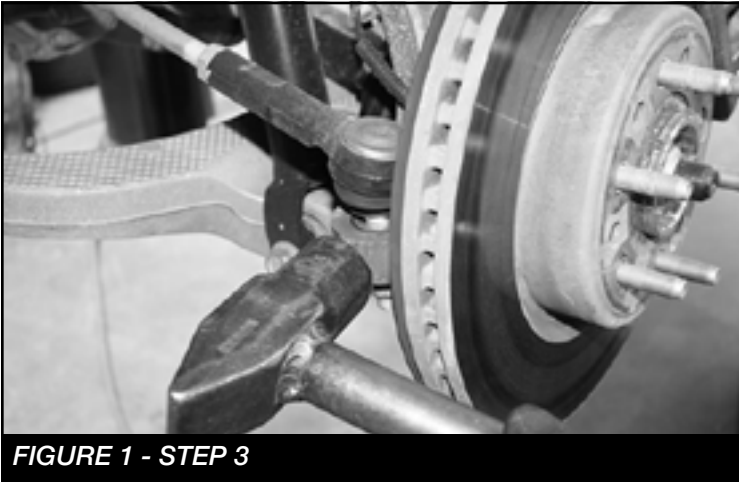

FIGURE 1 - STEP 3
3. Working from the driver side of the vehicle, disconnect the tie rod end from the steering knuckle by striking the knuckle to dislodge the tie rod end. **SEE FIGURE 1**